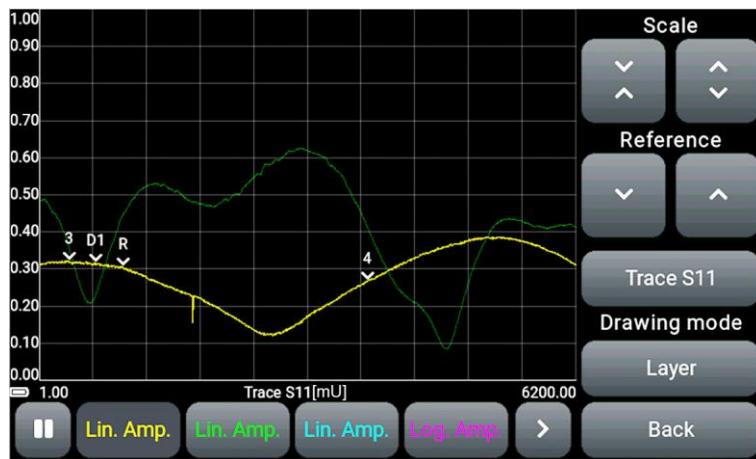

Figure 9.28 - Comparison of the saved trace with the real plot
- Setting up plots of the same type with different data sources (real plot and saved trace) in the **Layer** view (Figure 9.28).